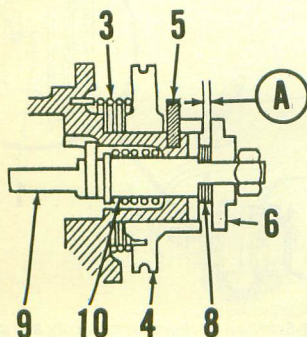

Fig. Y8-7—Clearance (A) is adjusted by varying shims (8).
Check the minimum plunger stroke by turning starter plate (16) until clearance (A—Fig. Y8-7) between pulley and adjusting plate is at min-